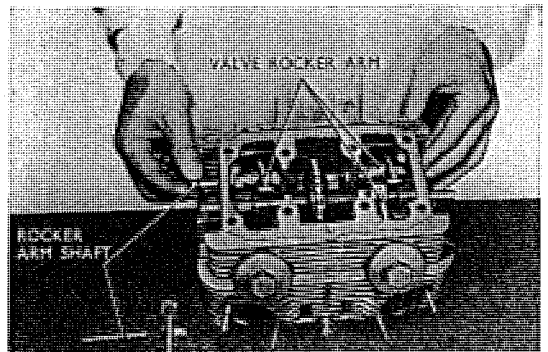

Fig. 3.30 Removing valve rocker arm
1. Refer to section C above. When the right and left covers are removed, removal can be made. (Refer to Fig. 3.30)
(a) Remove the left crankcase cover. (Refer to Fig. 3.30)